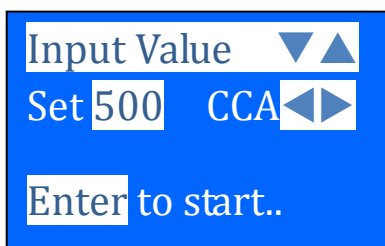
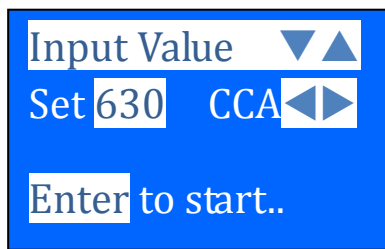

Figure 21
Figure 22
Press  key and the display will show: (Fig.21) below:
12. To enter the value 630, press  key will increase the original value of 500 (Fig.21) by step of 100 units to 600. Likewise use  key to increase the last two digits (00) to 30 by step of 5 units for each pressing. (Fig. 22)